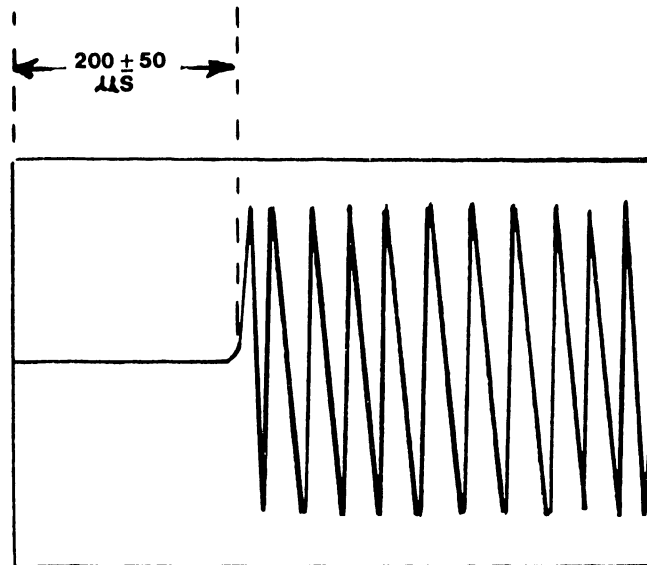

FIGURE 5-30 INDEX-TO-DATA ALIGNMENT PATTERN
2. Move the head to track 01 (key 1).
4. Check that scope shows a data pattern starting 200 \pm 50 microseconds from the start of the trace (see Figure 5-30).
4. Slide sensor as necessary to obtain a data pattern starting 200 \pm 50 microseconds from the start of the trace (See Figure 5-30).